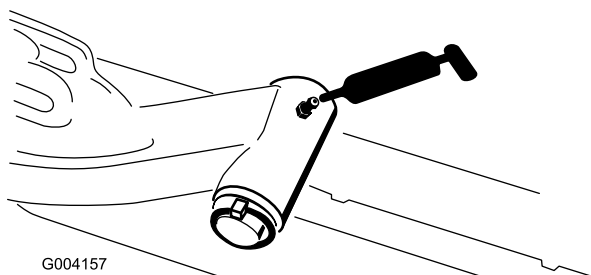

Figure 41
- Lift arm pivot shaft (1 each) (Figure 41)